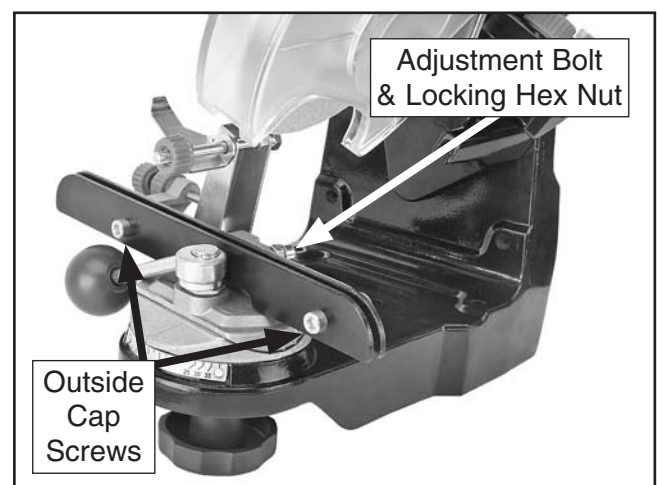

Figure 35. Clamp plate components.
2. Loosen the two cap screws shown in **Figure 35**. This will allow the inner clamp plate to be adjusted in the next step.